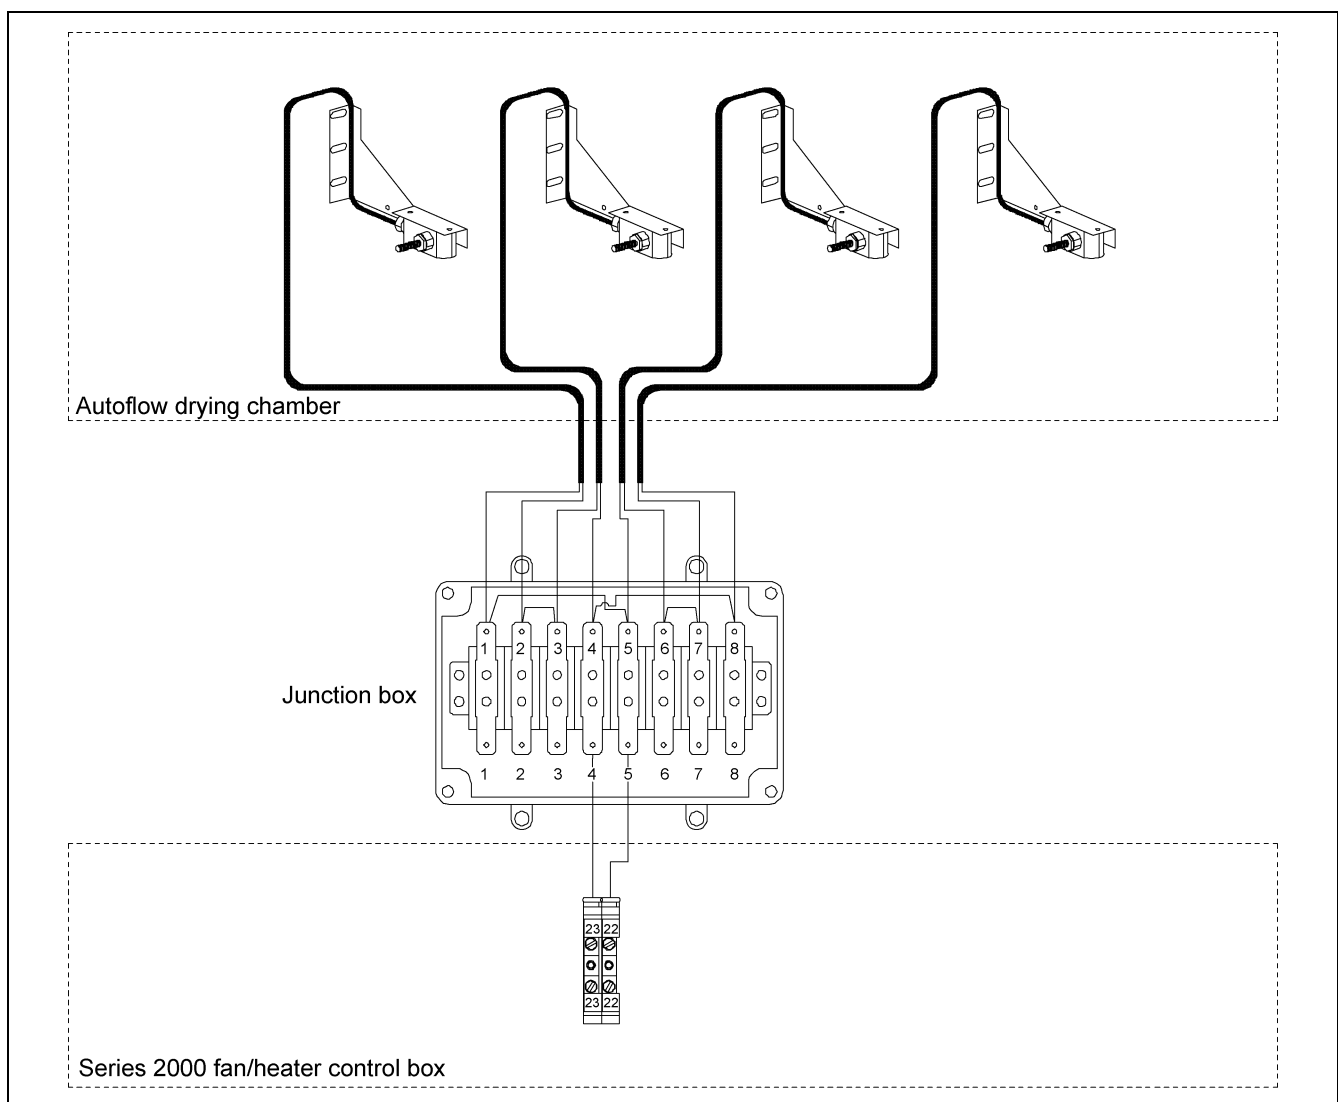

Figure 3G Illustration of the connection between the master heater control box and multiple sensors in the drying chamber.
7. Wire the four (4) temperature sensors. (See Figure 3G.)